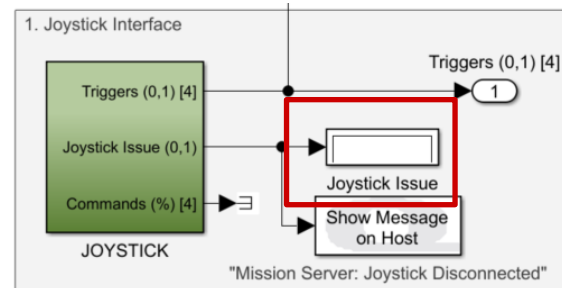

Figure 9. Joystick Issue display. A Zero (0) shows that there are no issues.
14. Ensure that the **Joystick Issue** display (Figure 9) reads 0 (no joystick issues). Ensure that all the toggles are set away from the user (see FrSky Joystick documentation). Make sure that the joystick's Arm/Disarm toggle is set as in Figure 10a and the Takeoff/Land toggle is set as in Figure 10c.